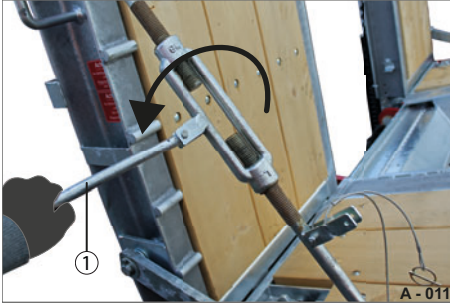

Fig. 10 Tightening turnbuckle
- Rotate the tensioning lever (Fig. 10/1) clockwise until the counter support hits the end stop or the ramps hit the ramp cover plate.